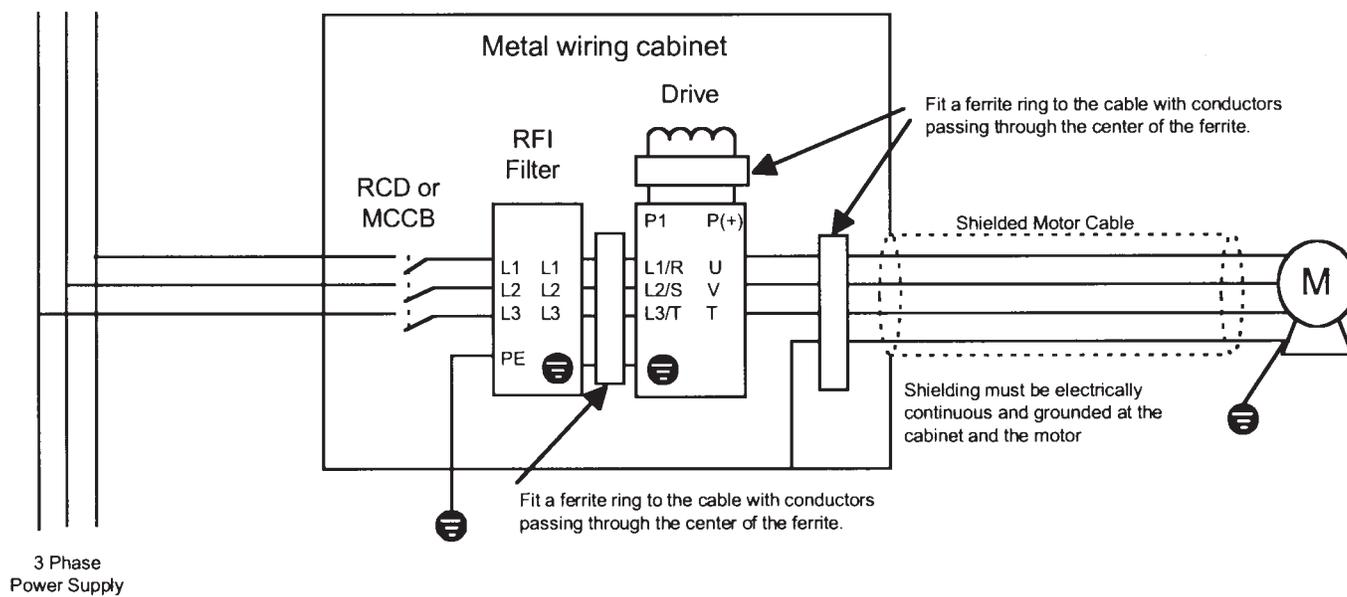

Figure 7 GP10 460V 400 Hp and higher
- 6) In the case where a ferrite ring is provided with the filter, fit the ferrite ring so the conductors pass through the center of the ferrite. Wire the cable according to Fig.6 or Fig.7 , paying attention to the applied Drive type.